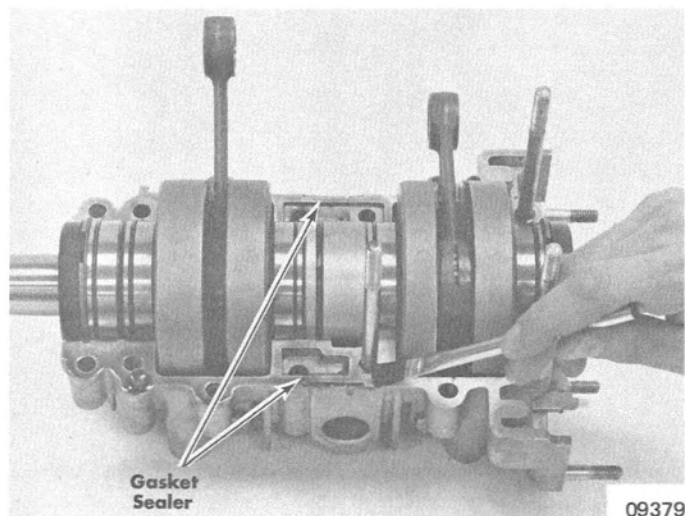

Figure 3. Applying Crankcase Sealer
9. Lubricate lips of new crankcase oil seals with Multipurpose Lubricant. Install an oil seal on each end of crankshaft, with lips facing toward end bearings (inward) and flush against snap rings. (Figure 3)
10. Apply a THIN coat of Gasket Sealer (C-92-72592-1) to mating surfaces of crankcase halves. (Figure 3)